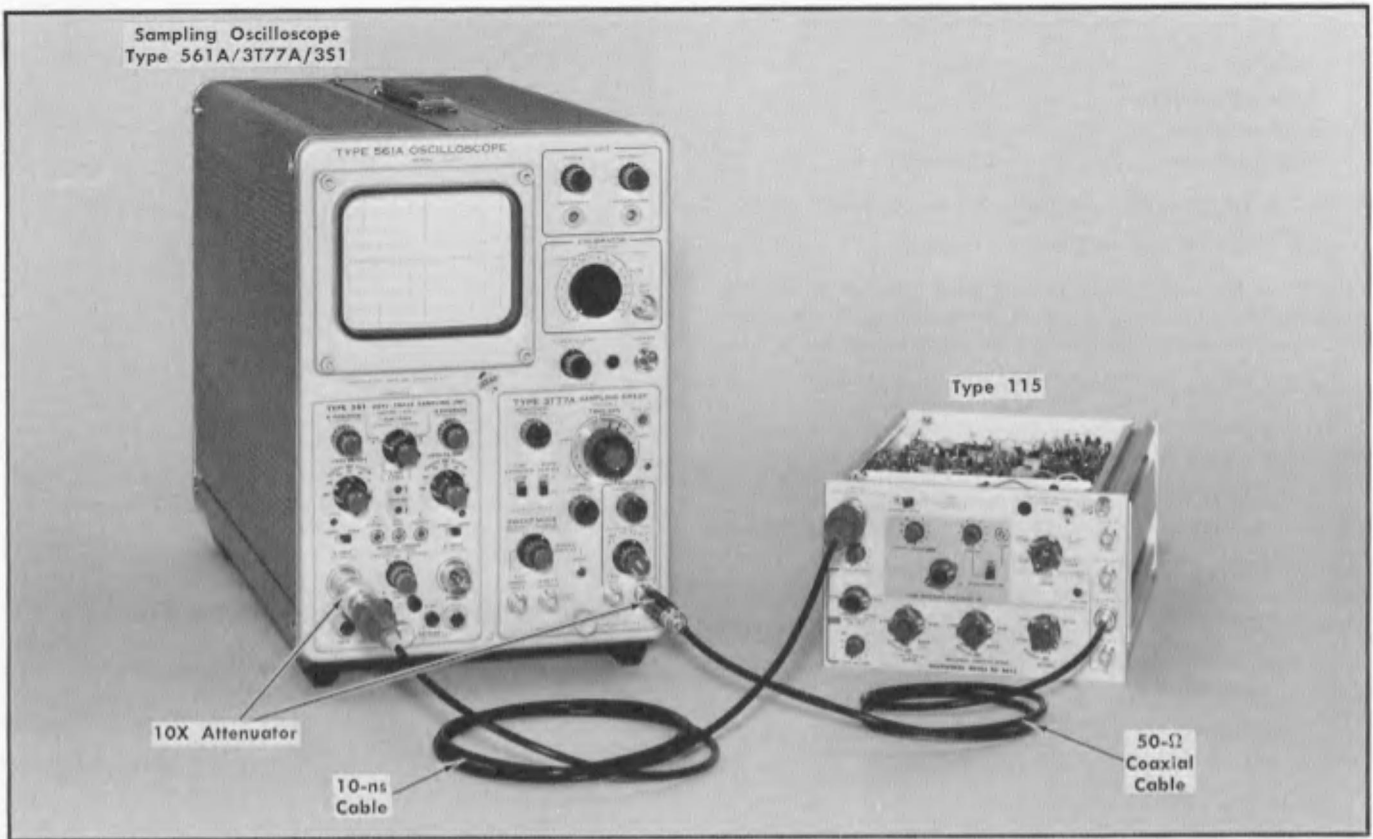

Fig. 5-14. Initial test equipment setup for steps 17 through 20.
17. Adjust Pulse for Minimum Aberrations **①**
- a. Test equipment setup is shown in Fig. 5-14.